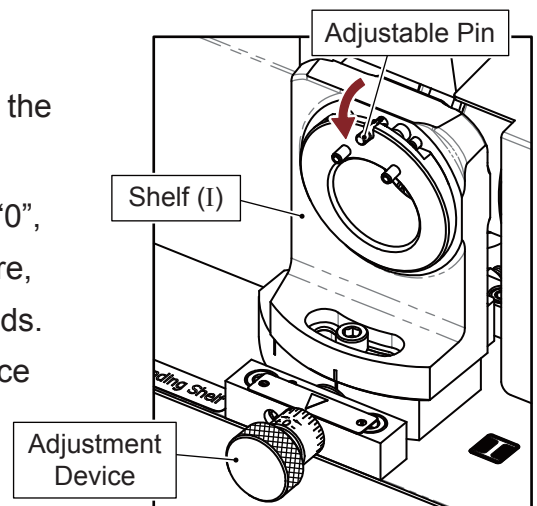

Fig. 5-21
1) Secondary Relief Grinding Shelf (I) (Fig. 5-21)
- ① Move the adjustable pin on the Shelf (I) from the top to bottom.
- ② Adjust the cutting face adjustment device to "0", after finishing the whole sharpening procedure, then adjust this device according to your needs. (See chapter "V-4. The use of the Cutting Face Adjustment Device")